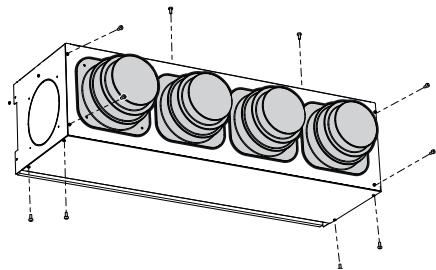

Fig.9
- Remove the ten screws of the PA\_V accessory (fig.9). For size PA670V the two lower screws of the internal support bracket must also be removed
- Remove the ten fastening screws of the plenum closure (fig.9). For size PA670V the two lower screws of the internal support bracket must also be removed